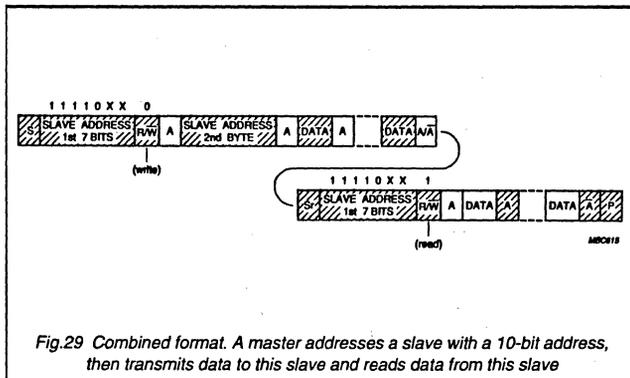

Fig.29 Combined format. A master addresses a slave with a 10-bit address, then transmits data to this slave and reads data from this slave
- **Combined format. A master transmits data to a slave and then reads data from the same slave (Fig.29).** The same master occupies the bus all the time. The transfer direction is changed after the second R/\bar{W} bit